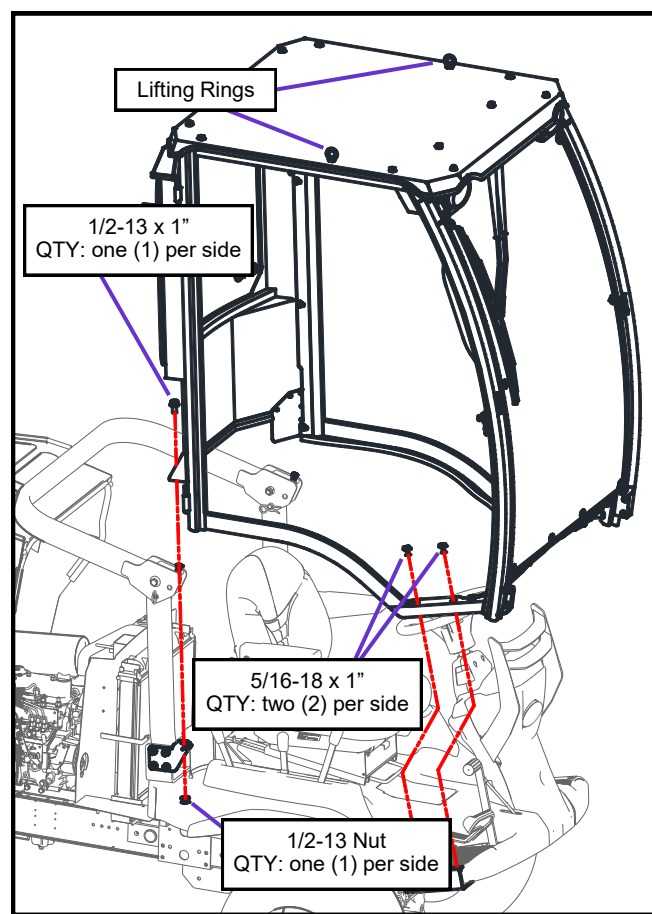

Fig. 3.5: Cab onto Tractor orientation
- 3.6 Carefully lower the cab over the tractor oriented per figure 3.5 until the floorboards are about 1/4 inch to 1/2 inch above the front mounts. Make sure the cab wire at the front right corner is free and not pinched underneath the floorboard.
NOTE: If the lifting rings (see figure 3.5) have been replaced with bolts, replace the center bolt on the roof into the side frame with the lifting rings.